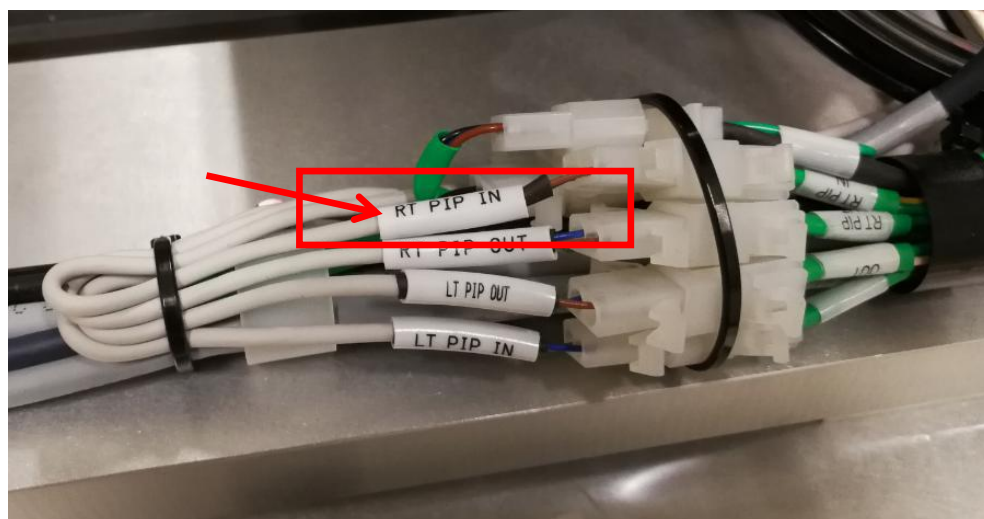

Figure 27 RT PIP In Connector Removal
5. Identify “RT PIP In” Label. Unplug Right PIP In Reed Sensor Cable Connector as shown in Figure 27 below.